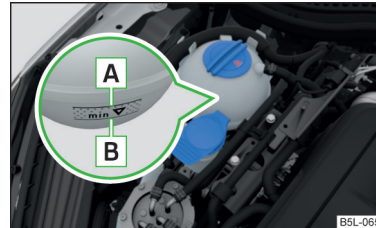

Fig. 161
When refilling, only use the same antifreeze written on the antifreezing expansion tank » Fig. 161 on page 205. ►
- Do not fill the coolant above the mark **A** » Fig. 161 on page 205.
The coolant expansion bottle is located in the engine compartment » Fig. 161.
- Check the level of coolant in the coolant expansion bottle » Fig. 161.